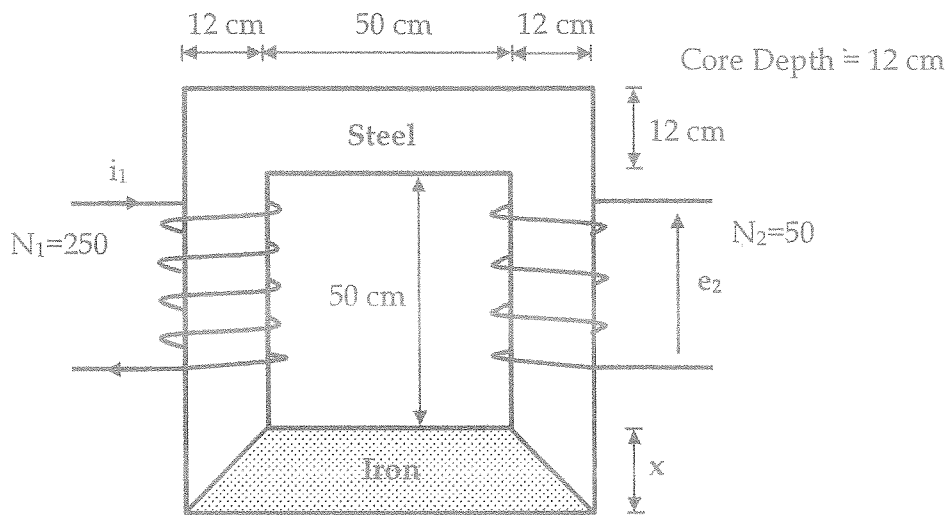

Figure Q1: Transformer core
- b) The transformer core shown in Figure Q1 has its bottom section made of iron and rest made of steel. Its primary side winding has 250 turns and secondary side winding has 50 turns. The width of the iron section is x . Relative permeability of iron and steel are 1500 and 600 respectively. Take the permeability of free space as $4\pi \times 10^{-7} \text{ Wb/A.turns.m}$.